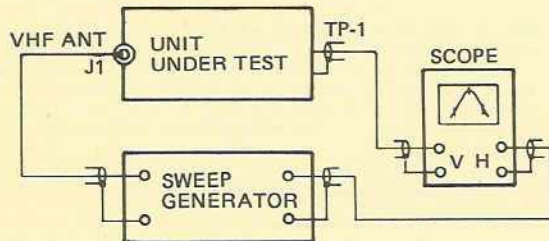

FIGURE 9. VHF LOW BAND RF TEST EQPT. HOOK UP
Step 1: Connect instruments as shown in Figure 9.